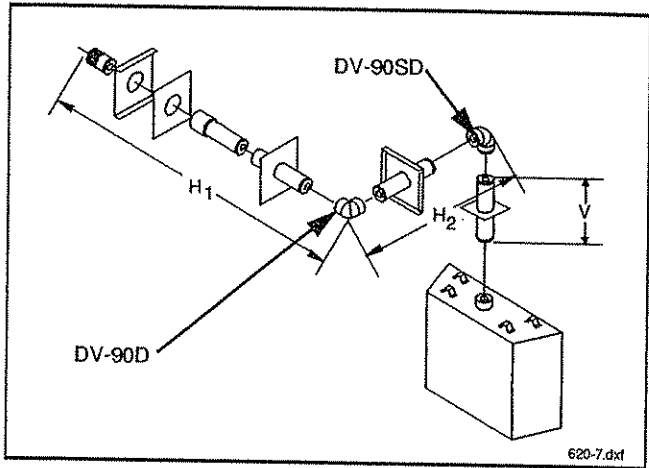

Fig. 7. Two (2) 90° elbows.
Figure 7 and Table 3 list examples of possible venting systems using two (2) 90° elbows. V is listed as minimum vertical dimensions and  $H_1 + H_2$  is listed as total of maximum horizontal dimensions. Other combinations of two (2) 90° elbows in system may be used as long as there is 1 foot of vertical rise for each 4 feet of horizontal run. The maximum vertical and horizontal distances for two (2) 90° elbows as shown in Figure 7 are 20 feet.